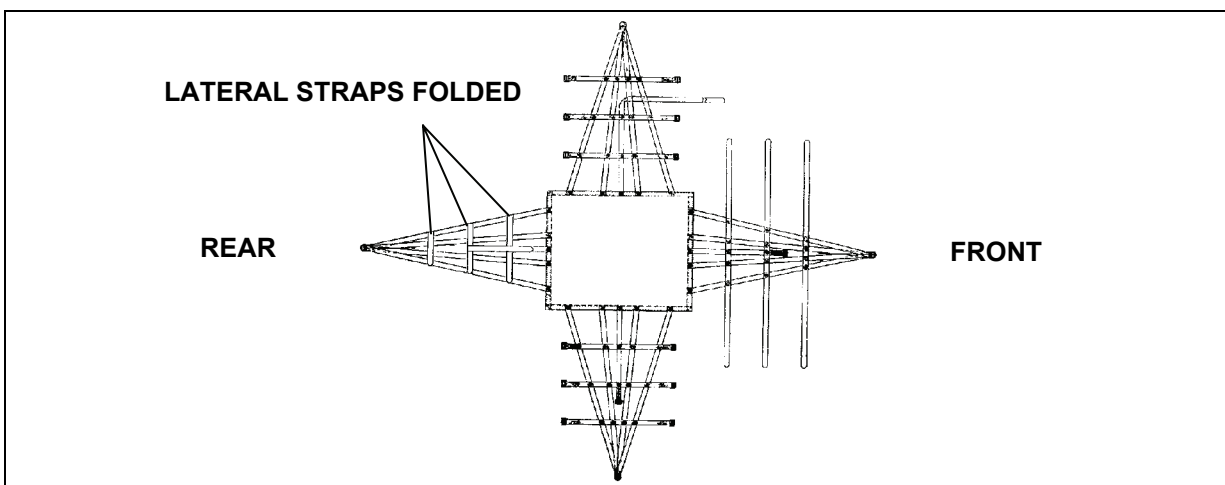

Figure 8-18. First A-22 Sling Assembly Positioned
8-4. The stretch A-22 cargo bag is two adjustable cotton duck/nylon cloth and nylon webbing containers consisting of two sling assemblies, two covers, and six suspension webs (Figure 8-17). The bag is used to deliver loads that are longer than the standard A-22 load but shorter than a double A-22. The cover is optional. The stretch A-22 has a weight capacity of 900 - 2,200 pounds. Inspect the container for serviceability in accordance with Table 2-1, Preventive Maintenance Checks and Services, in TM 10-1670-298-20&P. The best way to learn about this carrying device is to rig and derig it several times. The following steps and Figures 8-18 through 8-22 explain how to rig a double A-22 cargo bag.
- Fold and place all lateral straps on top of the rear support web (Figure 8-18).